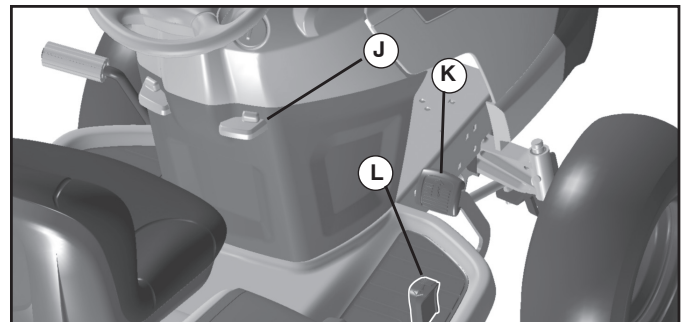

FIG. 6
- Slowly depress forward (K) or reverse (L) drive pedal to begin movement. Ground speed increases the further down the pedal is depressed.
TO USE CRUISE CONTROL (J) (See Fig. 6)